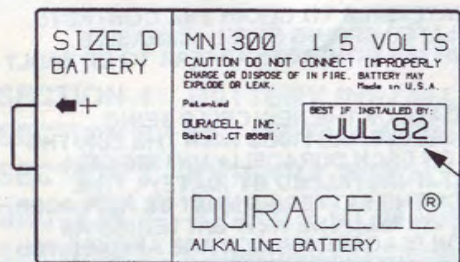
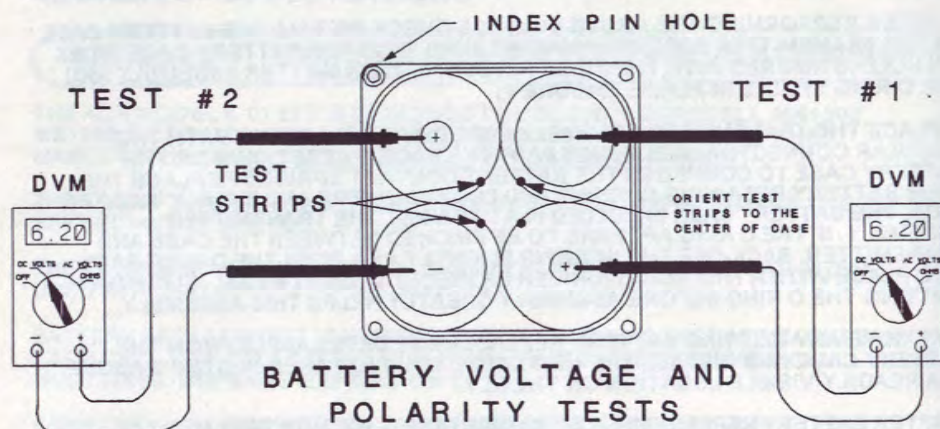

FIGURE 2
FIGURE 3
WHEN INSTALLING DURACELL BATTERIES WITH POWER TEST STRIPS SEE PAGE 2 PARAGRAPH 3 AND FIG. 3 THE BOTTOM BATTERIES ARE DESIGNED TO BE A TIGHT FIT IN THE CASE. APPLY A LIGHT COAT OF AUTOMOTIVE PASTE WAX TO THE CELLS TO FACILITATE INSTALLATION. PLACE ALL FOUR LOWER CELLS IN THEIR PROPER POSITION AT THE TOP OF THE CASE AND PUSH INTO POSITION ALL AT THE SAME TIME.
3. RECORD THE BATTERY REPLACEMENT DATE OF THE NEW CELLS BEING INSTALLED USING ONE OF THE ADHESIVE LABELS PROVIDED WITH THE ELT. THE BATTERY REPLACEMENT DATE IS FOUND ON EACH DURACELL® MN1300 CELL. (FIGURE 2) IT READS AS FOLLOWS: "BEST IF INSTALLED BY (DATE)". THE "(DATE)" INDICATED IS THE DATE BY WHICH THE BATTERIES MUST BE REPLACED. ALL CELLS MUST HAVE THE SAME DATE. INSTALL THE NEW BATTERIES AS INDICATED BY THE BATTERY INSTALLATION PLACARDS WHICH ARE AFFIXED TO THE INSIDE OF THE BATTERY CASE. IMPORTANT WHEN INSTALLING THE NEW STYLE DURACELL BATTERIES WHICH HAVE A BUILT IN TEST STRIP ON THE SIDE OF THE CELL, THESE TEST STRIPS MUST BE ORIENTED SO THAT THE TEST STRIP DOES NOT CONTACT THE PLASTIC CASE OR ANY OTHER CELL (SEE FIGURE 3)
4. AFTER INSTALLATION A VOLTAGE AND POLARITY CHECK MUST BE PERFORMED TO INSURE THAT THE BATTERIES HAVE BEEN INSTALLED CORRECTLY. (FIGURE 3)